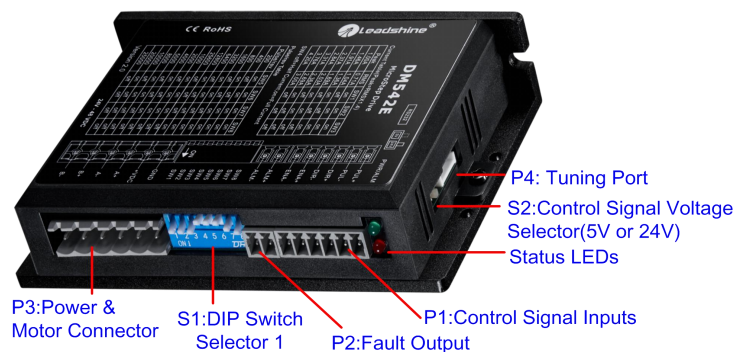

Figure 2 Connectors, DIP switches, and LED locations
PUL+	Pulse and Direction Connection: (1) Optically isolated, high level 4.5-5V or 24V, low voltage 0-0.5V (2) Maximum 200 KHz input frequency (3) The width of PUL signal is at least 2.5 μ s, duty cycle is recommended 50% (4) DIR signal requires advance PUL signal minimum 5 μ s in single pulse mode (5) The factory setting of control signal voltage is 24V, must need to set S2 (figure 2) if it is 5V
The P4 connector in Figure 2 is a RS232 communication port for PC connection. Refer to the following pin definitions. It is just used to modify parameter, not for equipment control because neither precision nor stability is sufficient. If you
The DM542E can accept can accept differential or single-ended control signals (pulse, direction, and enable) in open-collector or PNP connection through the P1 connector (figure 2). It is recommend to add an EMI line filter between the power supply and the drive to increase noise immunity for the drive in interference environments.
- (1) ENA signal is no-connected as default;
- (2) Control signal amplitude is 24 V as default. If it is 12 V, please set the S2 (Figure 2) selector switch to 5 V first, then connect 1KΩ resistor; If it is 5V, please set the S2 to 5V.
The second 1-bit selector is located on the top (S2 in figure 2), used to configure the voltage of control signals. For the safety of optically coupled, the factory setting is 24V, which no need to connect 2K resistors like the old drives, making it easier to use. When the voltage of the control signal is 5V, the S2 must be set to 5V, otherwise, the motor won't work.